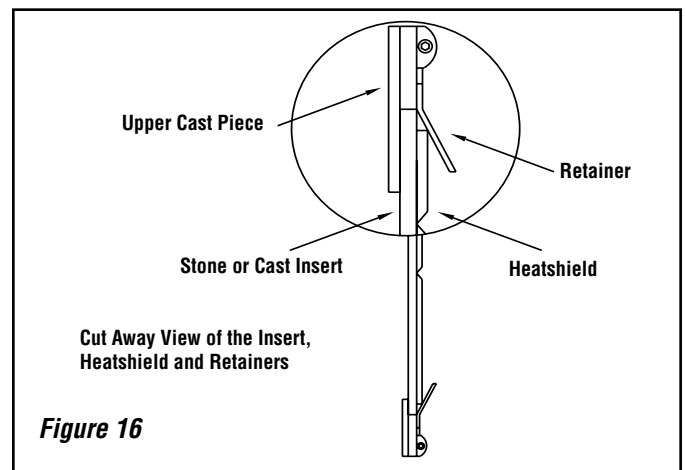

Figure 16
5. Put the cast iron upper piece A back in its original location while making sure that the upper retaining bracket D is to the inside of the heatshield pushing it up firmly against the cast or stone insert - **Figure 16**. Reinstall the 2 screws B.